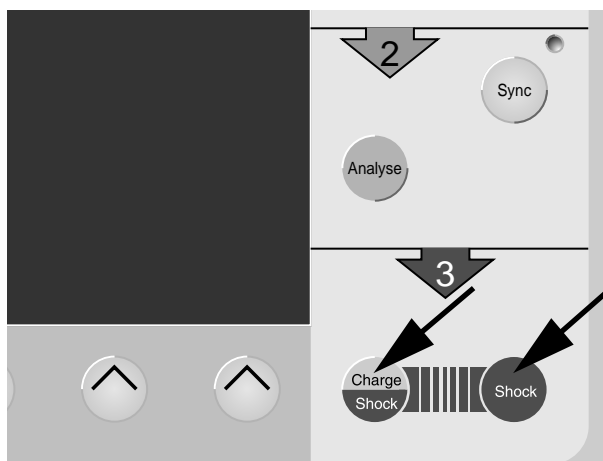

Figure 5-4. Buttons to deliver the shock
- Now trigger the shock within 30 seconds. To do so, simultaneously press **Charge Shock** and **Shock** (Figure 5-4).